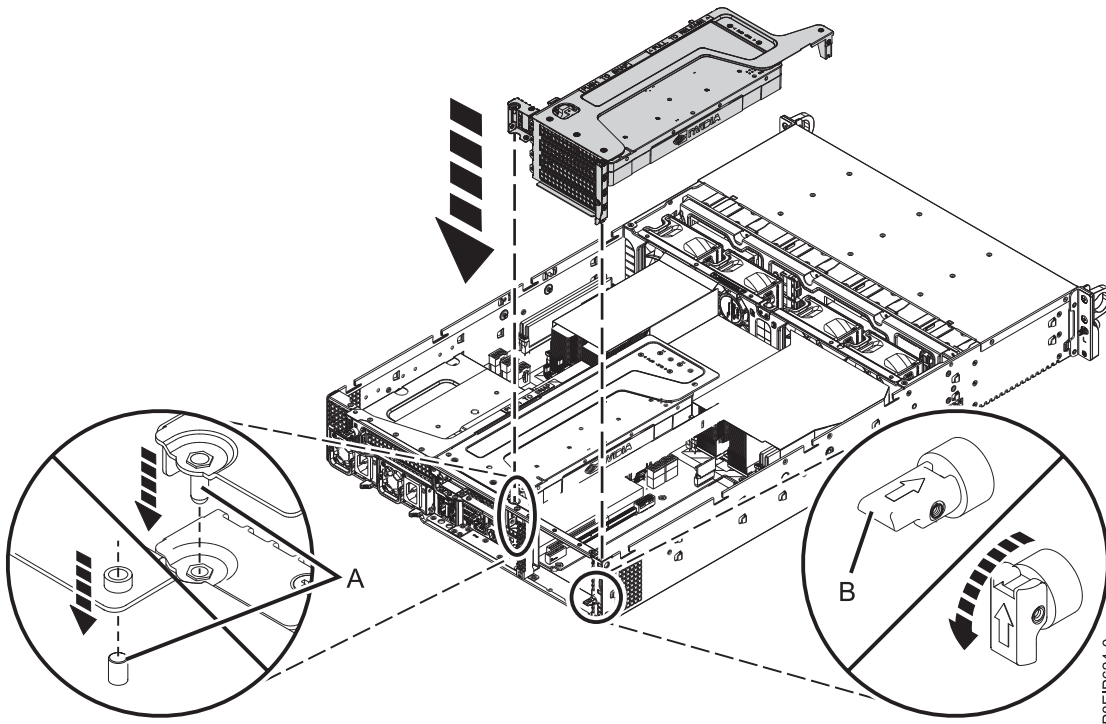

Figure 18. Inserting the GPU and riser
- h. Insert the GPU and PCIe riser as shown in Figure 18 on page 22.
- 1) Retract the retaining pin (B) so the arrow points to the system.
- 2) Insert the riser, using the slots and alignment pins (A) to properly insert the riser. Push the riser firmly into the system backplane.
- 3) Set the retaining pin (B) to secure the riser.